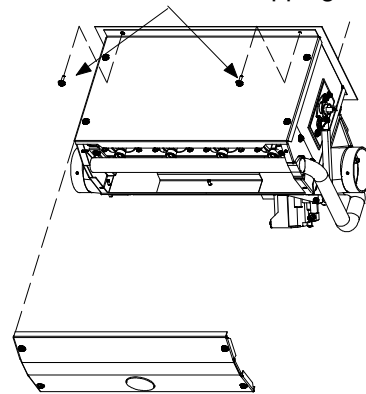

FIGURE 50
- 7 - Remove burner box cover and remove four burner box screws at the vestibule panel and remove burner box. Set burner box assembly aside. G61MPV-135 only - Remove and discard two additional shipping screws. See figure 50.
- 5 - Remove burner box cover and remove four screws which secure burner box assembly to vest panel. Remove burner box from the unit. G61MPV-135 only - Remove and discard two additional shipping screws. See figure 50.